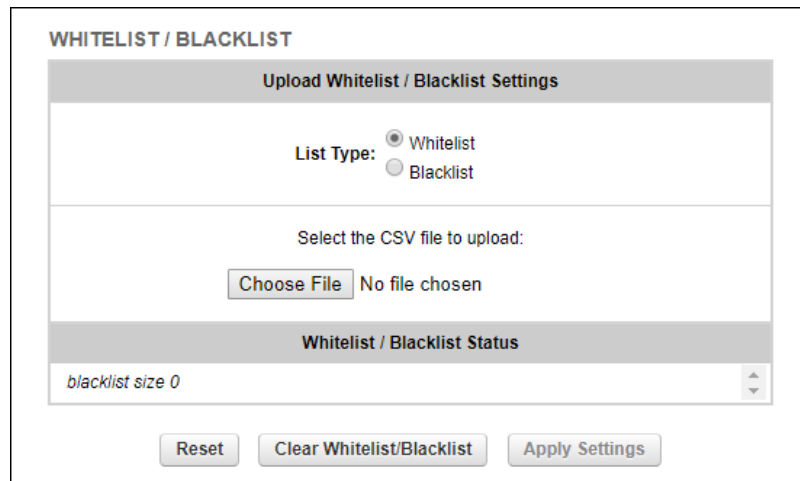

Figure 36. Configurator (Pass list / Block list dialog)
- The **Pass list / Block list** dialog will be shown (Figure 36 \(page 100\)).